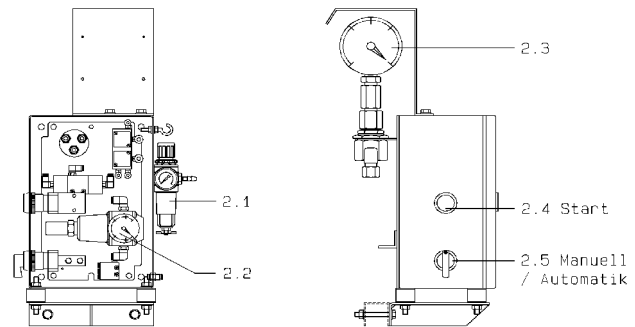

Figure 5.2.1
This optional feature enables pressure monitoring of the "B"-component (hardener) by means of a contact pressure gauge (Fig. 5.2.1, Pos. 2.3) to avoid mixing faults. The spraying pressure monitoring range for this component can be adjusted.
With the switch MANUAL / AUTOMATIC set to "MANUAL" (Fig. 5.2.1, Pos. 2.5) monitoring for the pressure range below the set spraying pressure is not activated. However, in the pressure range above the set spraying pressure is maintained for safety reasons.
In the factory the pressure regulator with fine filter (Fig. 5.2.1, Pos. 2.1) in the control cabinet was set to 6 bar and the precision pressure regulator (Fig. 5.2.1, Pos. 2.2) to 1.4 bar.
- Insert the enclosed key into the pressure gauge (Fig. 5.2.1, Pos. 2.3).